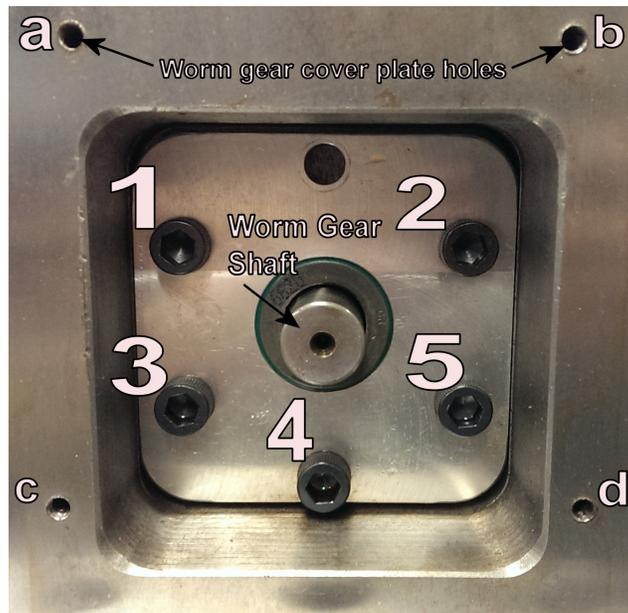

Figure 1: Holes a, b, c, & d cover the worm gear shaft. Screws 1, 2, 3, 4 & 5 hold worm gear shaft in place.
1. Remove cover to expose end of worm opposite motor by removing screws a, b, c, and d, see figure 1.